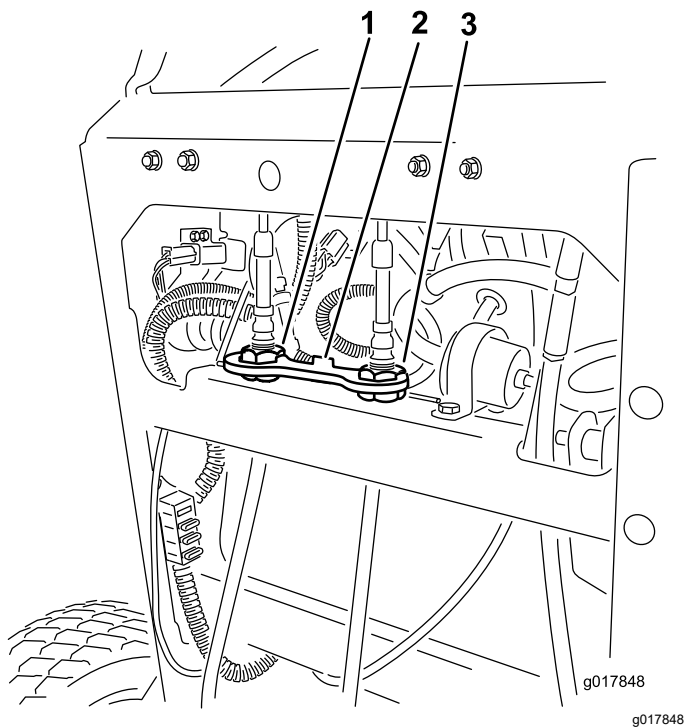

Figure 55
4. Rotate the right cable adjustment to position the right motion-control lever in the center of the control-panel neutral-lock slot (Figure 55).